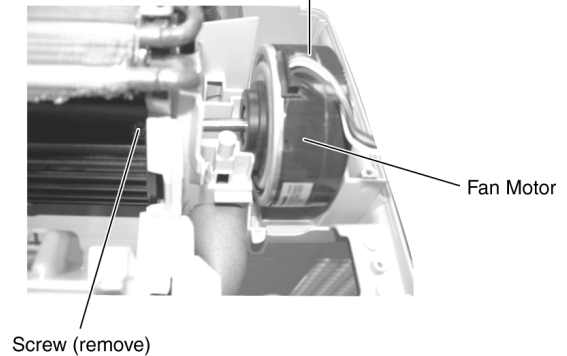

Fig. 7
4. Remove the screw at the Cross Flow Fan. (Fig. 7)
REMINDER - To reinstall the Fan Motor, put it back in place, adjust the position of the Fan Motor's leadwire appropriately as shown in the Fig. 7 before installing the Cross Flow Fan.